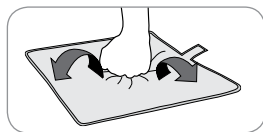

Fig. 30-Testing chair sensor pad
**ALWAYS** check sensor pads when connecting them to a Posey alarm. You can check a pad by attaching it to the sensor cable outlet in the alarm, activating the alarm and placing pressure on the pad (Fig. 30). When the pressure is released, the alarm should sound. Repeat this pressure/release test in several different areas along the entire length of the sensor pad to ensure entire pad functions properly. **If the alarm and/or sensor pad do not function properly, remove the alarm and sensor from service and replace them with a properly functioning alarm and/or sensor pad.** DO NOT use the alarm or sensor pad if it does not activate each time weight is removed from the sensor pad.